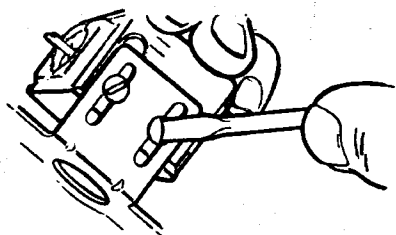

Figure 1
5. Move bracket forward or backwards until the proper shaft length has been attained. The two retaining screws should be tightened. Refer to Figure 1.